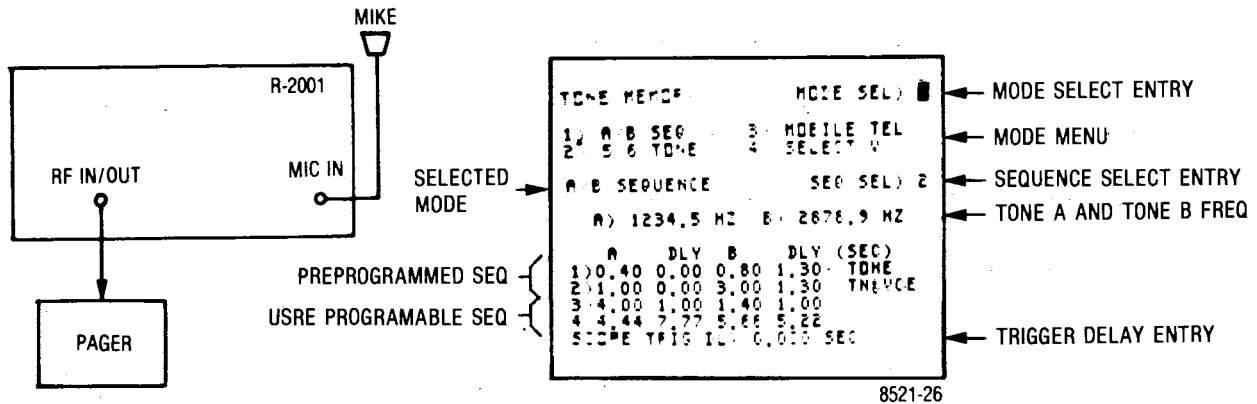

Figure 4-9. Test Setup for Two-Tone Pager and Alert Functions with CRT Display
- b. Test two-tone pager decode and alert function, and demonstrate simultaneous modulation (Figure 4-9).